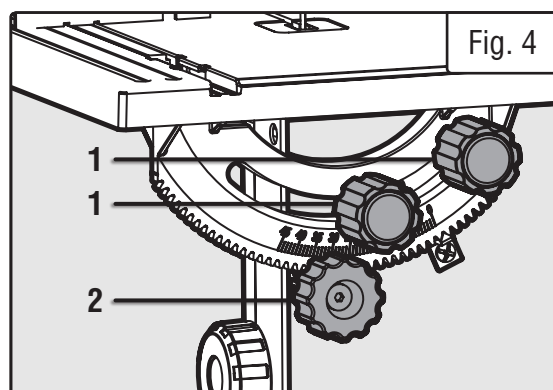

Fig. 4
3. Pull the angle adjustment knob (Fig. 4 - 1) on the back of the band saw and align the teeth on the table bracket into the teeth on the angle adjustment knob. Release the knob.
3. Assemble the flat washers and table lock knobs (Fig. 4 - 2) into the table bracket. Turn the table lock knobs to tighten the table assembly to the saw's frame.
1. Loosen the two table lock knobs located on the back of the band saw (Fig. 4 - 1).
2. Adjust the table to the desired angle using the angle adjustment knob (Fig. 4 - 2) and the angle indicator. The table can be tilted 45 degrees to the right.